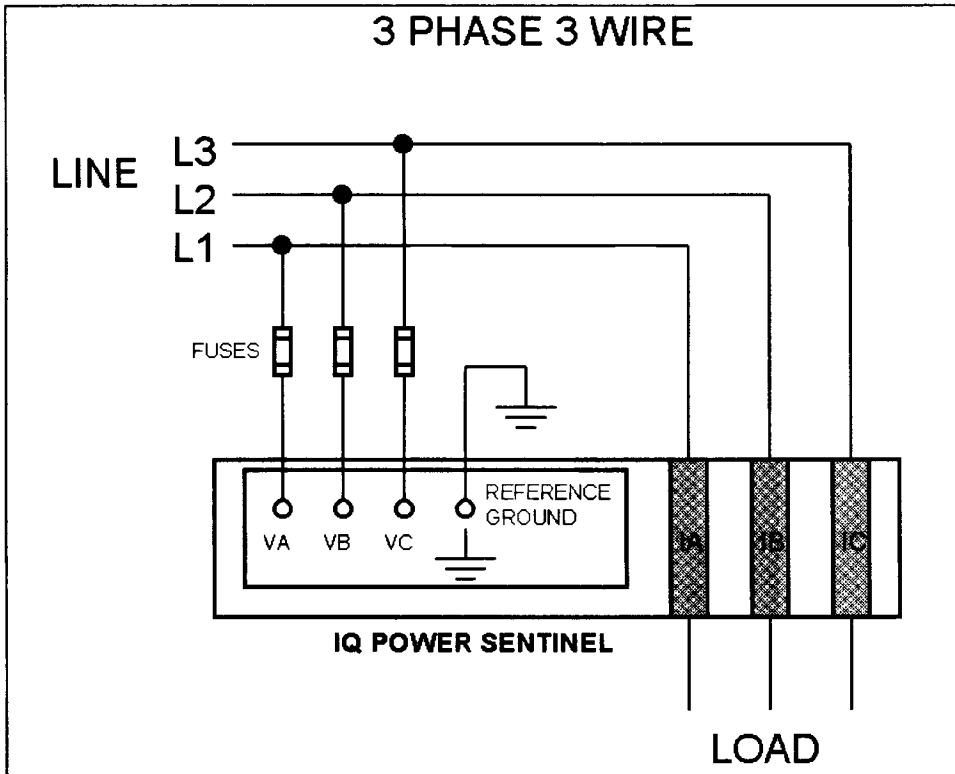

Fig. 6 3-Phase, 3-Wire Wiring Configuration
- E) Three-Phase Star, Three-Wire (see **Figure 6**).
- F) Three-Phase Star, Three-Wire, Earthed Neutral Point (see **Figure 6**).
- G) Three-Phase Delta, Three-Wire (see **Figure 6**).
- H) Three Phase Open Delta, Three Wire, Earthed Junction (see **Figure 6**).